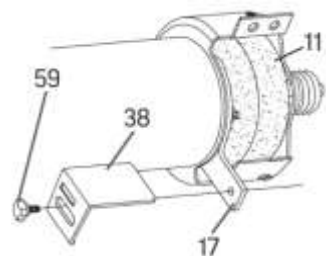

Fig. 1
3. Install the work rest support (#38) to the right inner wheel guard (#17) with the knob tensioner (#59) (Fig. 1).